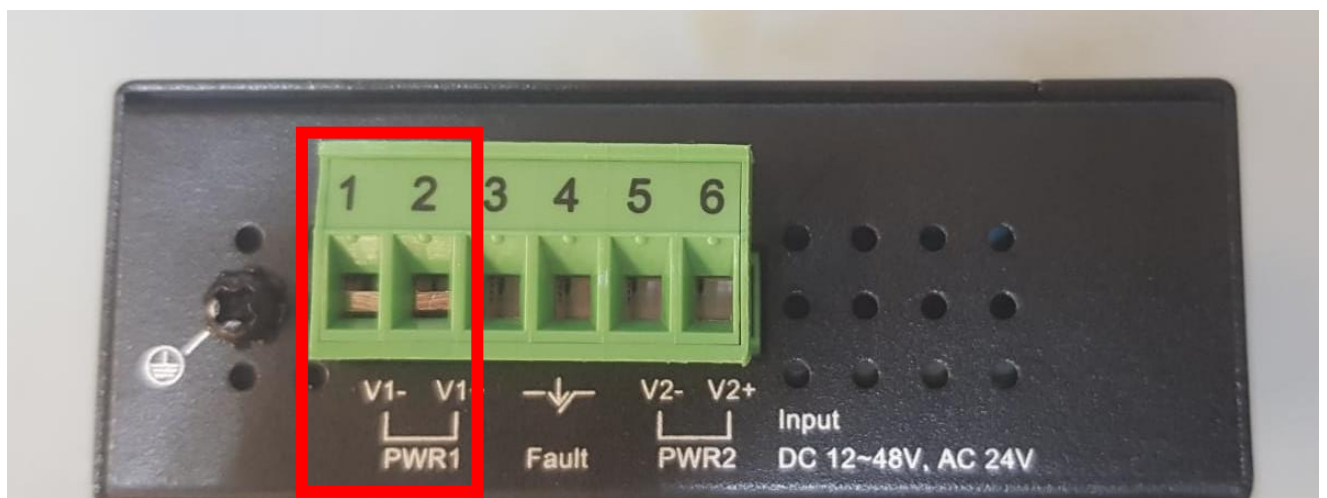

Figure 26 The POE+ Injector power input wiring panel terminators
2. Connect the power input wires into the POE+ injector connector panel as shown in Figure 26 and as specified in Table 8.